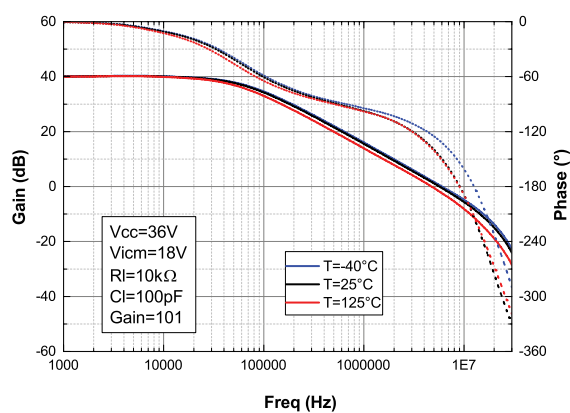
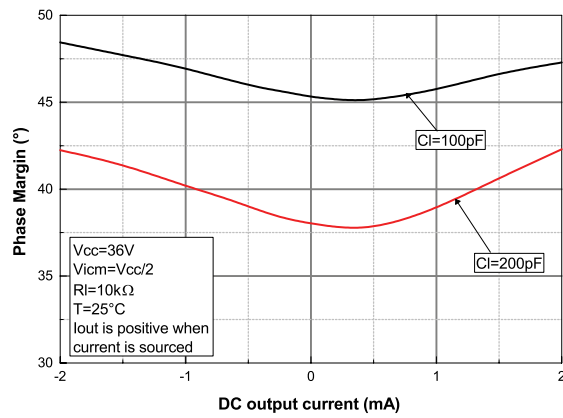

Figure 24. Phase margin vs. output current at $V_{CC} = 5\text{ V}$
Figure 26. Phase margin vs. capacitive load
4. For higher capacitive values see Figure 24. Phase margin vs. output current at $V_{CC} = 5\text{ V}$, Figure 26. Phase margin vs. capacitive load